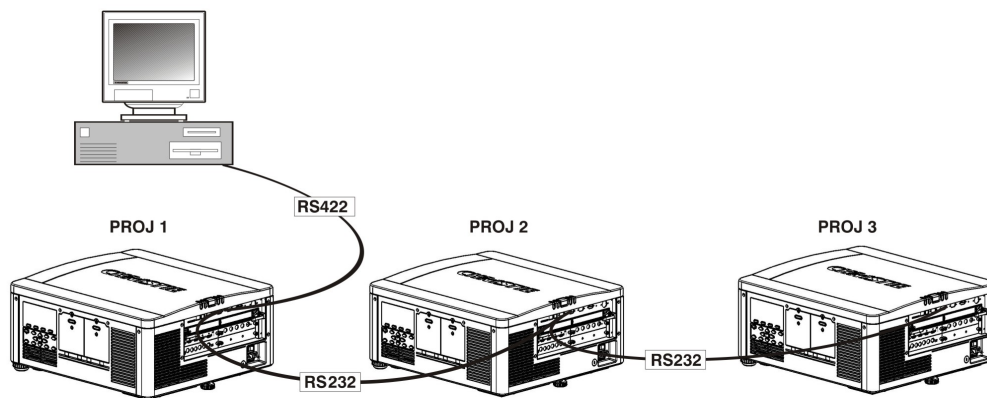

FIGURE 2-25 MIXED NETWORK
2. Chain the projectors together by connecting an **RS-232 OUT** (Null Cable) of the first projector (already connected to the computer/controller through the **RS-422** port straight thru to an **RS-232 IN** on the next projector in the chains). Continue connecting projectors in this manner until you’ve reached the last projector in the chain, so that only the last projector has one unused port **RS-232 OUT**, see Figure 2-25 Mixed Network.